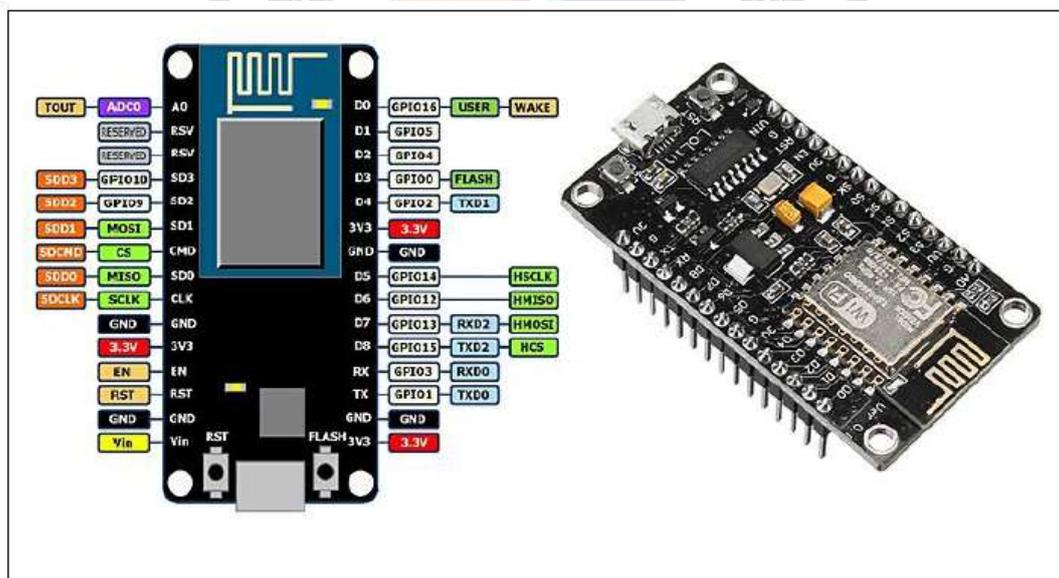

Figure 2: NodeMCU ESP8266 Wi-Fi Module
An Arduino Company product, the NodeMCU ESP8266 is an open-source Arduino-compatible microcontroller with inbuilt Wi-Fi capabilities. With this module, we can easily communicate via the GPIOs by connecting to the Internet and transmitting data over the Internet using a Wi-Fi chipset[11]. The machine learning environment is based on this module. In below Figure 2, this module supports bands within the 802.11n and 802.11b categories, which makes it suitable for use as both an access point (AP) and Wi-Fi system at the same time. [7].